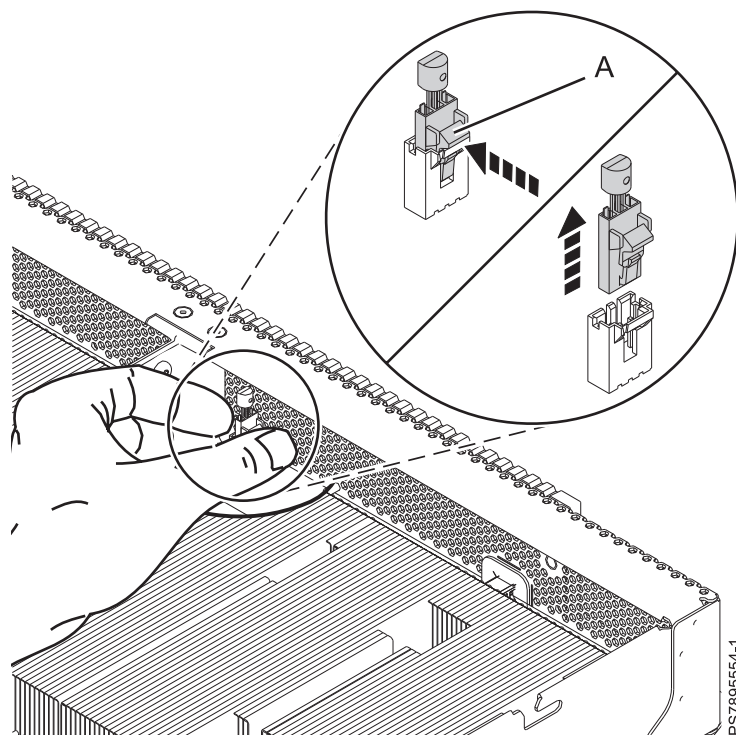

Figure 33. Removing the thermal sensor
5. Locate the thermal sensor as shown in Figure 33 on page 67.
7. Using your left hand (for best visibility), squeeze the tab (A) on the sensor to dislodge the sensor from its connector.